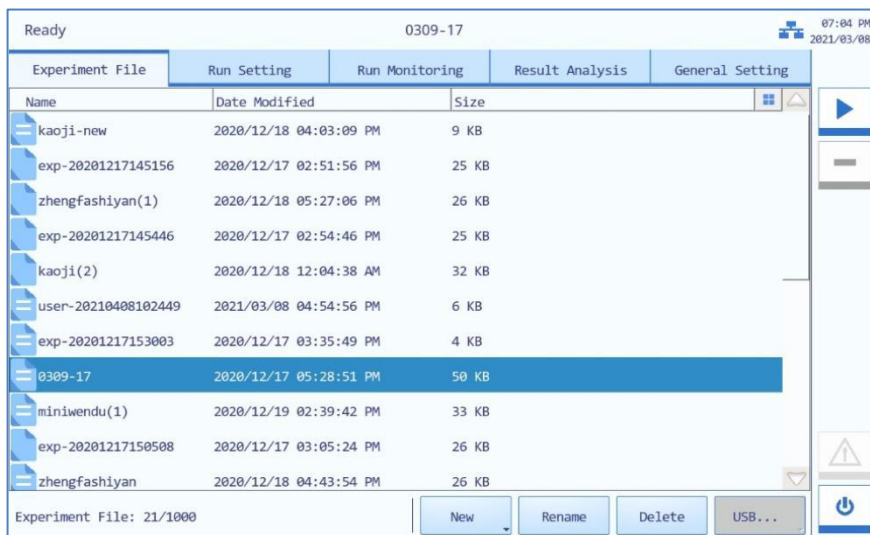

Figure F-2.1b Experiment File Tab - Experiment File Display Area
- ▶ Users can press the  icon on the top left corner of the experiment file display area and it will turn into  icon, and the display mode of the experiment file display area will change from icons to file details list, as shown in figure F-2.1b.